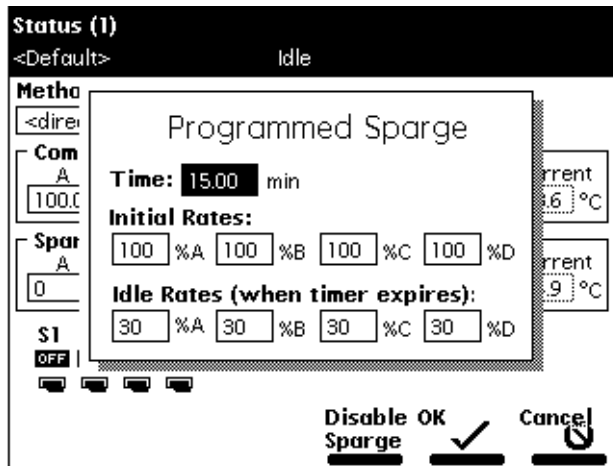

Figure 4-13 Programmed Spurge Dialog Box
2. Select the **Program Spurge** option, then press **Enter**. The Programmed Spurge dialog box appears (see Figure 4-13).